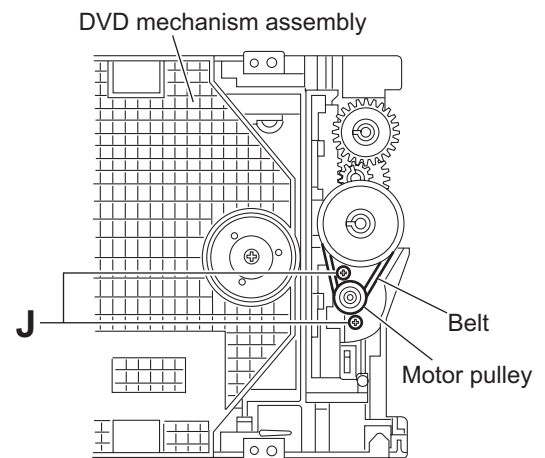

Fig.15
- (2) From the top side of the DVD mechanism assembly, remove the belt from the motor pulley. (See Fig.15.)
- (3) Remove the two screws **J** attaching the motor to the DVD mechanism assembly and take out the motor from the bottom side of the DVD mechanism assembly. (See Fig.15.)